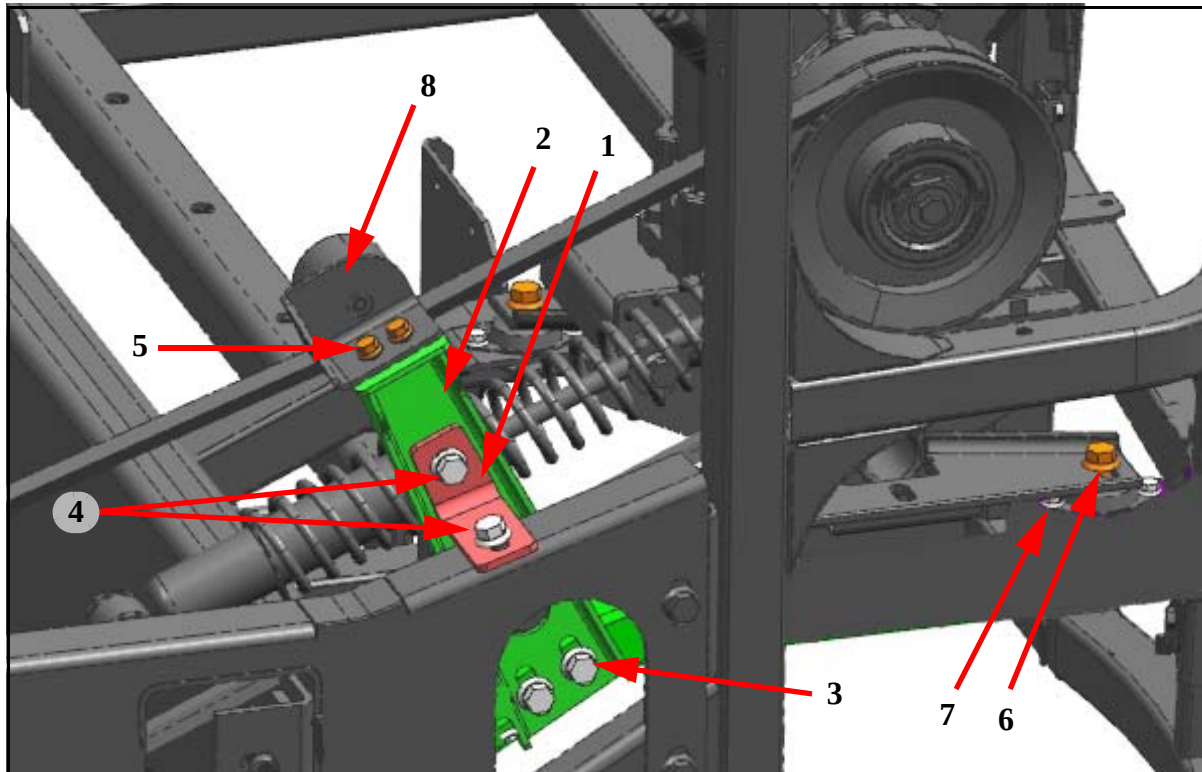

Figure 33. Idler pulley bracket angle and snubber bracket installation.
71. Orient and install the new snubber bracket, p/n 08-27-1327, idler pulley bracket angle, p/n 08-27-1326, and existing idler pulley as shown in Figure 33.
Item	Figure 33 Description